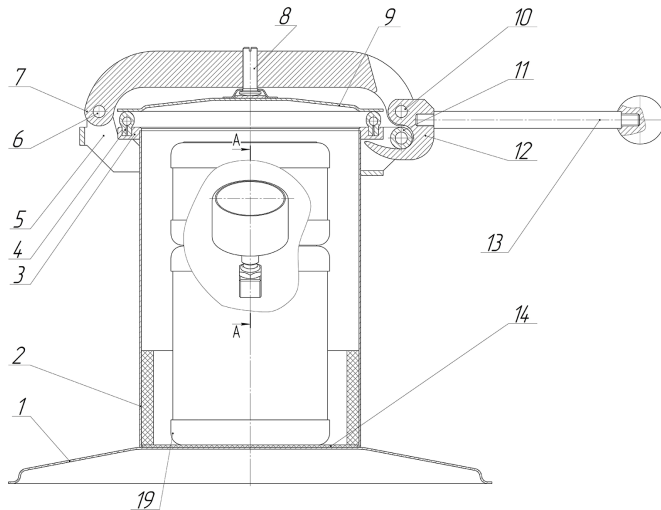

Figure 1 – PGS-2: general view
The test chamber (Figure 1) is a cylindrical barrel 2 with a flange 3, which is provided with an elastic sealing ring 4. A cushion pad 14 is placed on the bottom 1 of a barrel 2.
**2.1.3** Adjust the pressure in the test chamber of PGS-2 and check it for leaktight. To do this, place the big insert SU.PGS.010-05 (Position 19 on Figure 1) into the test chamber, close the chamber using the locking device. Readings of the pressure gauge should be within the range of  $(50 \pm 2)$  mbar. If the pressure is outside of the range, adjust pressure by using the screw 8. To do this, loosen lock crew 15 and tighten the screw 8 if you need to increase the pressure in the test chamber, or loosen it if the pressure needs to be reduced. Then secure the screw 8 with the lock screw 15.